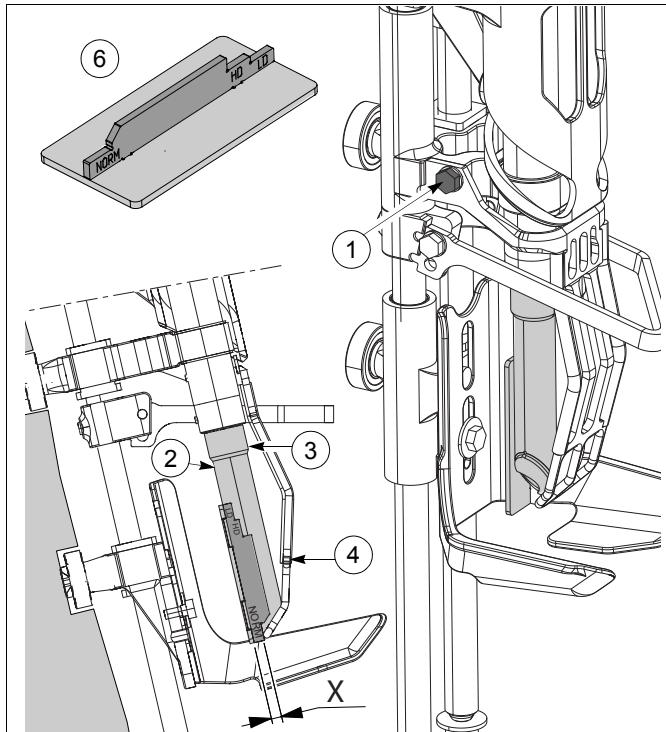

fig. 34 Adjust infeed bracket
See fig. 34.
3. Place the adjustment tool between suction nozzles **2** and **3** as shown in fig. 34.